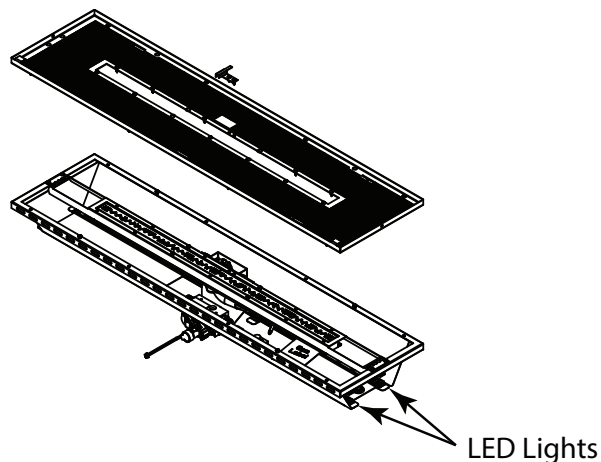

Figure 6
8. Install the LED lights on to the LED light tray. See Figure 6. LED lights are held in place with hand bend tabs.